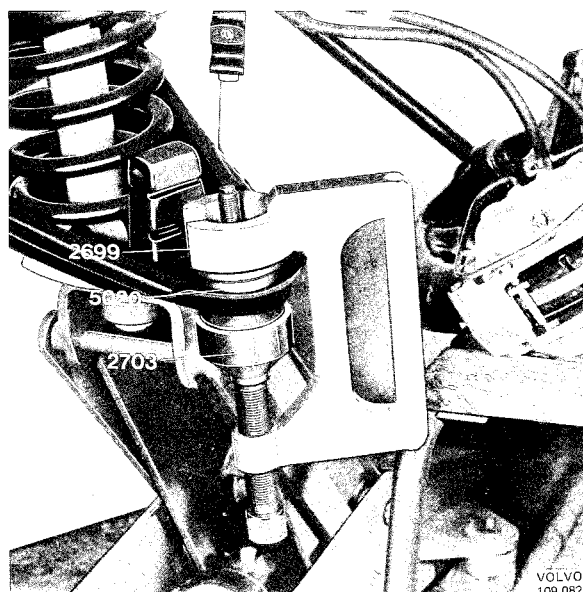

Fig. 6-30. Installing lower ball joint
2. Press the ball joints in the control arm with tools 2699+5020+2703, see Fig. 6-30. If the ball joint is fitted at a slant turn the tool 180° and press the ball joint in correctly. The joint must not be loose in the control arm.